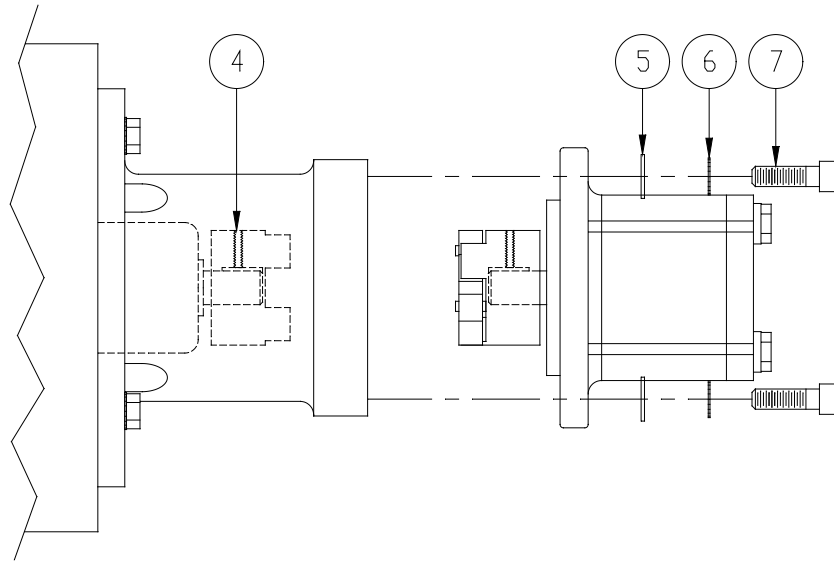

Figure 3
5. Mount the pump to the bracket with the pressure port (small diameter) upwards. Insure the center line of the pump coupler aligns with the center line of the engine coupler. **If these center lines are not aligned, equipment damage can occur.** Fasten the pump in two places using a 3/8-16 X 1-1/4 socket head screw, 3/8 lock washer, and a 3/8 washer. See Figure 3.